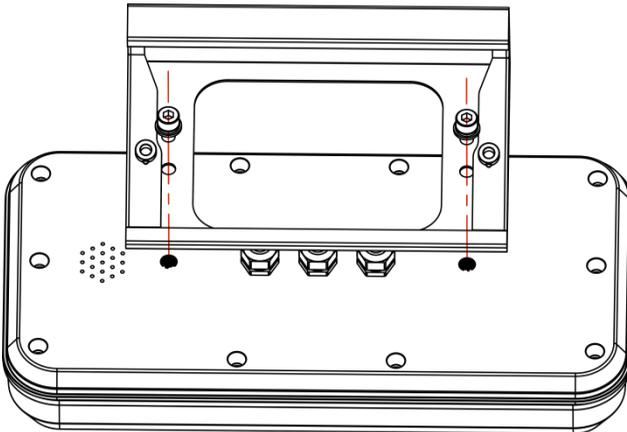

Figure 3-3
Step 3: Install the metal bracket on the host, as shown in the figure 3-3 below.